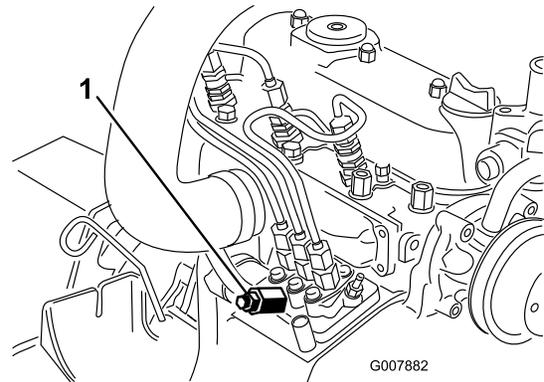

Figure 43
3. Place a rag under the air-bleed screw on the fuel-injection pump and open it (Figure 43).